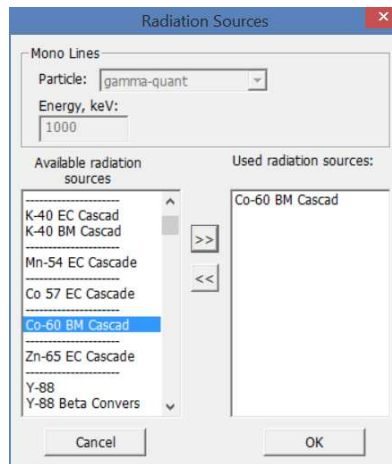
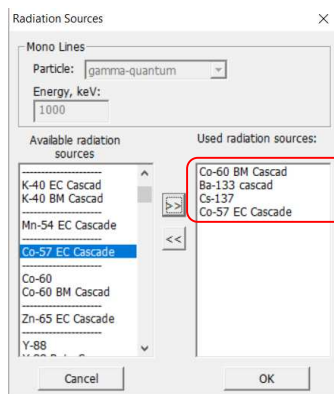

Figure 53.15
Figure 54.7
7.12 In the menu of the window **Calculation** select **Options->Radiation type**. In the appeared window **Radiation sources** (see Figure 53.15) in the left field find the source 'Co-60 BM Cascad' and press the button **>>**, after that the selected source will move to the right field **Used radiation sources**. Click **OK**. [Section 4.3].
8.2.1 In the menu of the window **Calculation** select item **Options-> Radiation type**. In the window **Radiation sources** that appears (see Fig. 53.15) in the left field select the source 'Co-60 BM Cascad' and/or a list of any other types of sources (including non-cascading ones) and press the button **>>**, after which they will be moved to the right field **Used radiation sources** (see fig. 54.7). Click **OK**. [Section 4.3].